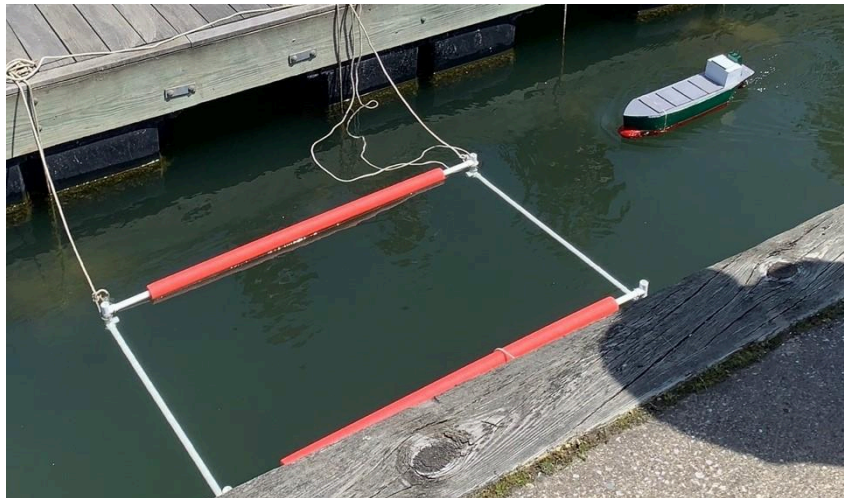

Figure 2. 2022 Ship approaches the navigational hazard
- The navigational draft may not exceed 5 cm. That is to say, no part of the vessel (propeller, rudder, etc.) may extend more than 5 cm into the water. There will be a navigational hazard in the operational course that will be just over 5 cm deep, and there will be a 30 second time penalty each time the vessel hits it (Figure 2)